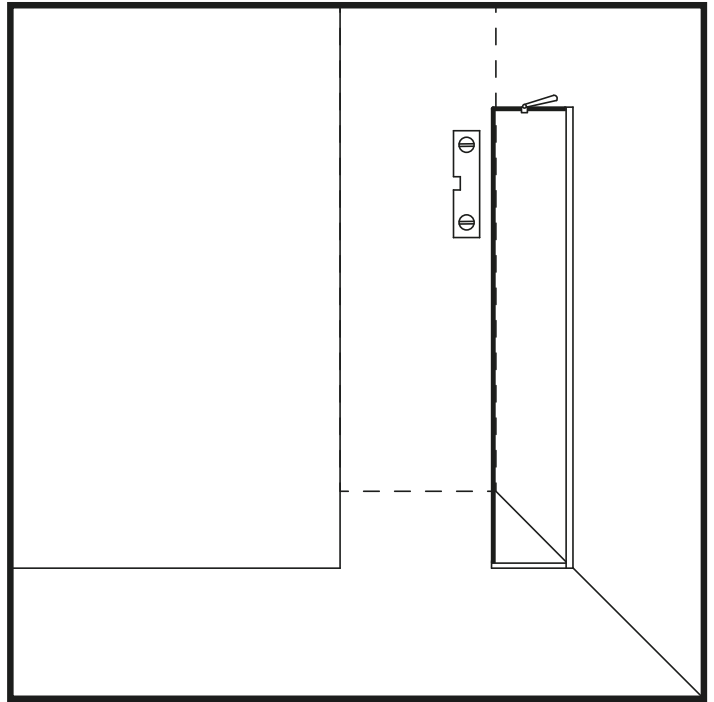
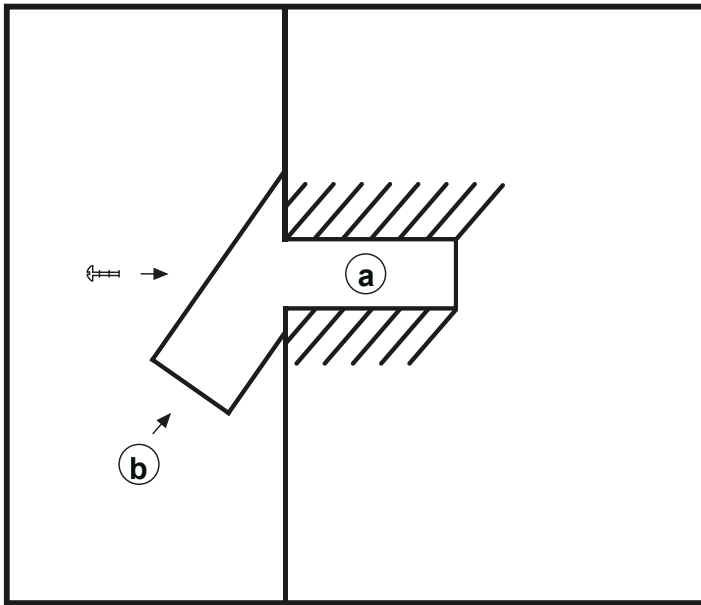
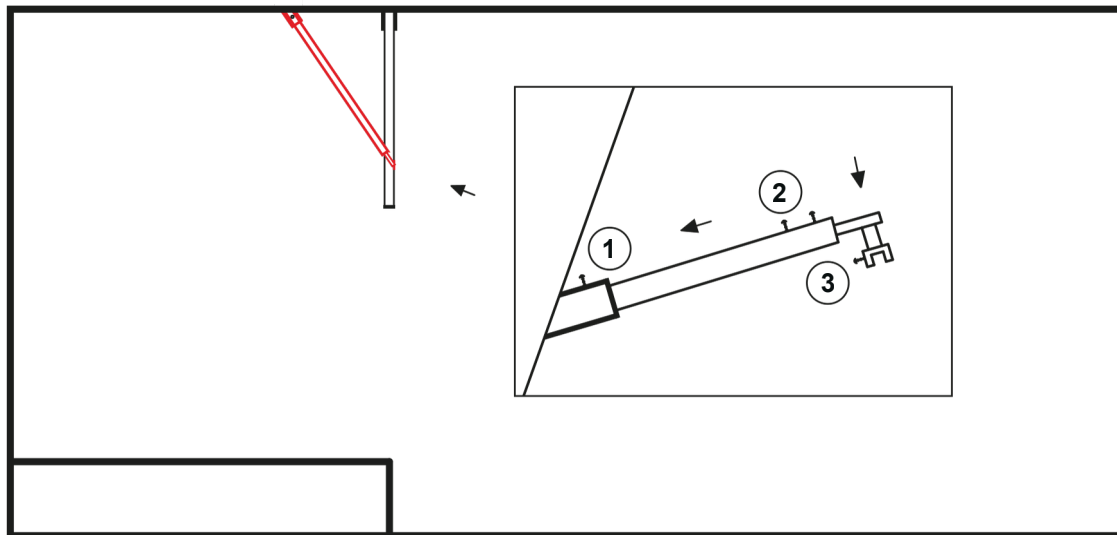

Figure 8
Figure 9
Figure 10
19. Start installing the telescopic tube at a 45 degree angle to the wall. Since the telescopic tube is adjustable, choose the mounting location according to your preference, but we recommend installing it towards the outer corner of the glass. (Figure 8)
21. Place the included gaskets into the mounting clamp (3), between the parts that go over the glass and U-profile, to ensure the glass does not touch the metal. (Figure 10)
23. Make a mark on the wall (Figure 8) for drilling the mounting hole (a) (Figure 9) and remove the telescopic tube.
24. Drill the hole for the dowel (a) at the marked location, remove any dust from the hole, and insert the dowel. (Figure 9)
25. Unscrew the screw (1) on the telescopic tube (see Figure 10) and remove the wall-mounted part (b) (see Figure 9).
26. Insert part (b) into the previously drilled hole (a) in the wall and secure it with a screw. (Figure 9)
27. Take the telescopic tube and carefully insert it into the wall mount (b) (Figure 9) and rest the other end (3) (Figure 10) on the planned location, on the glass.
49. Tighten and secure screw (1). NB! The mounting point must be oriented upwards! (Figure 10)
50. Fix the telescope mount (3) to the glass with a screw. NB! It is important that you have previously installed the gaskets included in the set between part (3) Metal parts must not come into contact with the glass, as this may cause the glass to break.
51. Adjust the glass using a level and secure the telescopic tube with screws (2), with their heads facing upwards.